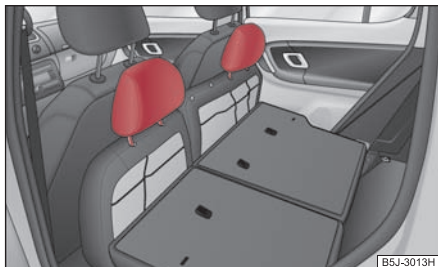

Fig. 70 Rear seats: Inserting head restraints in the seat cushions
- The head restraints can be inserted into the relevant holes of the folded forward seat cushions ⇒ page 66, fig. 70.